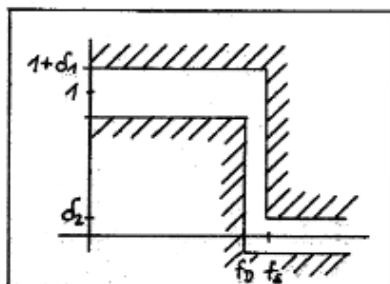

Bild 4:
The scheme can be filled out either by functions with a power curve or Chebyshev reaction in the passband or stopband. The required filtering degree N_{MIN} is then determined from equation (2) or (3). For comparison purposes, the filtering degree of an FIR version can also be calculated, which requiredParameter conversion takes place via equation (4). In contrast to IIR systems, non-recursive filters (tolerance diagram Fig. 4) allow targeted progress to be made on the phase response. The simplest solution is to develop a Fourier series, but this is not satisfactory for selective systems due to Gibbs' phenomenon. A windowing of the Fourier coefficients according to KAISER provides in this case a rather simple suboptimal solution.